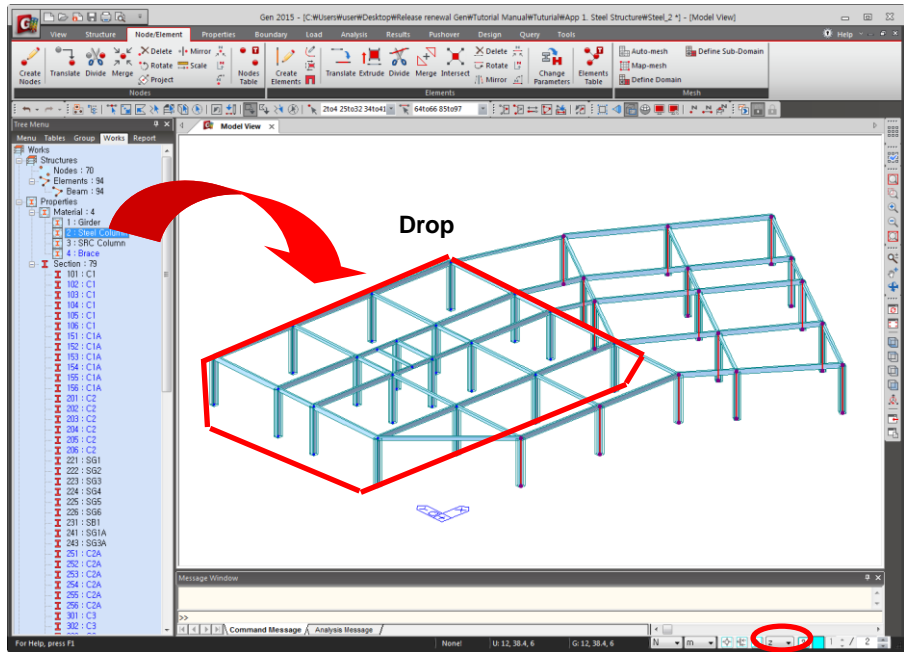

Figure 1.23 Modify beta angles and material properties
**Unselect Polygon (Columns)** (Refer to Figure 1.23)